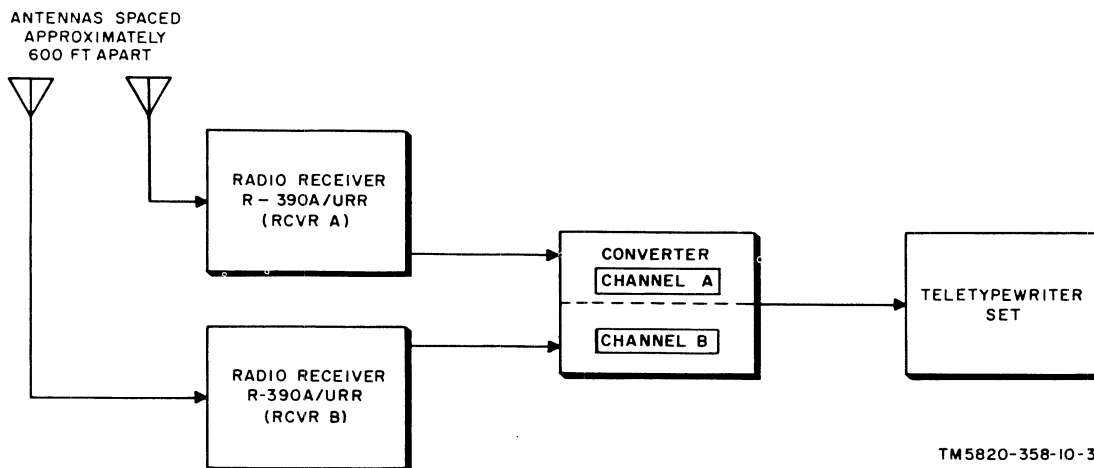

Figure 3. Space-diversity radio teletypewriter receiving system, block diagram.
*System.* Figure 3 shows two receivers connected in a space-diversity radio teletypewriter system. The doublet or rhombic antennas feed the incoming frequency-shift signals to the receivers. The outputs of the receivers are applied to a converter which provides diversity combining and produces direct current (dc) signals for the operation of teletypewriter equipment.